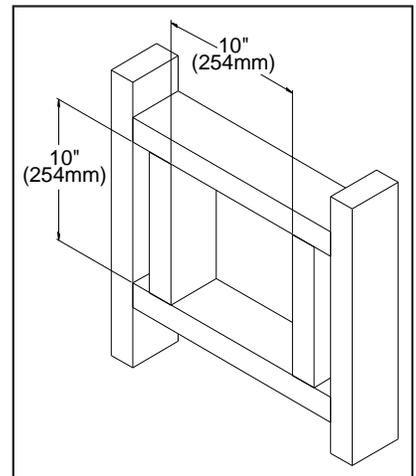

Figure 30: Wall Framing Hole for Horizontal Installation.
3. With the pipe attached to the stove in the correct location, mark the wall for a 10" (25.4cm) x 10" (25.4 cm) square hole (refer to Figure 30). The center of the square hole should match the center line of the horizontal pipe. Cut and frame the 10" (25.4cm) x 10" (25.4cm) hole in the exterior wall where the vent will be terminated. Refer to Figure 26 and table 3 for allowable locations. If the wall being penetrated is constructed of non-combustible material i.e. masonry or concrete, a 7" (17.8cm) hole is acceptable.